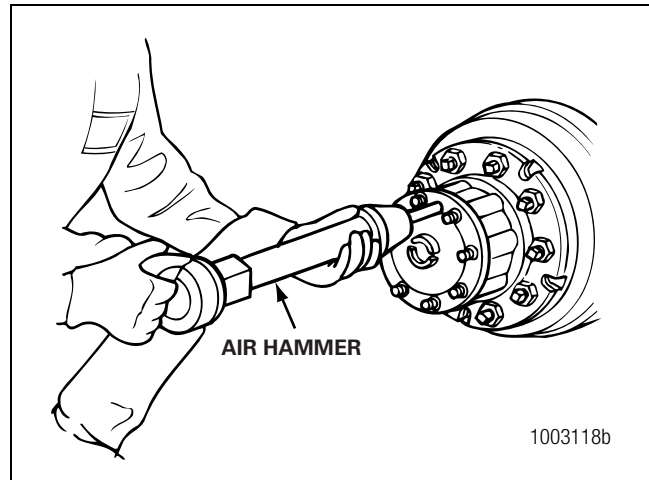

Figure 4.13
2. Place the round hammer bit on the axle shaft between the studs. Operate the air hammer while pressing against the hub and loosen the axle shaft and split tapered dowels. Figure 4.13.